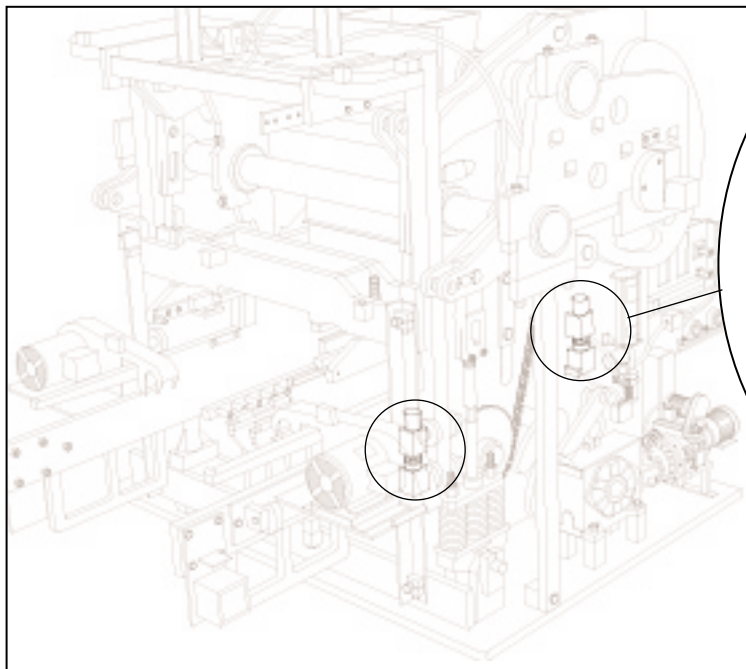

Figure 18.42 BOLTS AT ALL 4 CORNERS (RIGHT SIDE SHOWN).
- b. Loosen bolts at all 4 corners that secure mold throat assembly (See figures 18.42 and 18.43). Remove top spacers.